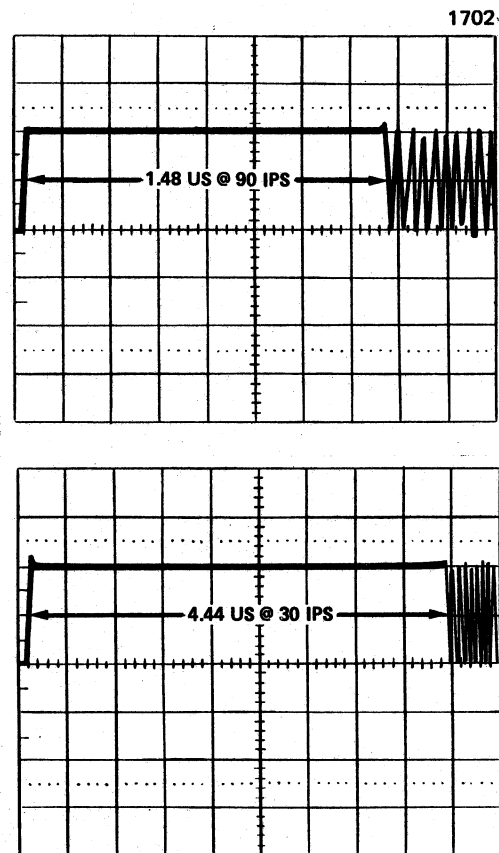

Figure 3-23. Gap Adjustment Display Pattern
- b. Command: (S). Status on CPU display should read: POWER UP, CARTRIDGE NOT IN, WRITE PROTECTED.
- c. Command: (L). Status on CPU display should read NO CARTRIDGE. Selected LED (CRI6) on Main PWB of basic tape drive should illuminate and remain lit.
- g. Adjust potentiometer R25 on Controller PWB until positive pulse width observed on oscilloscope is 4.44 microseconds (30 ips tape drive) or 1.48 microseconds (90 ips tape drive), as shown in Figure 3-23.